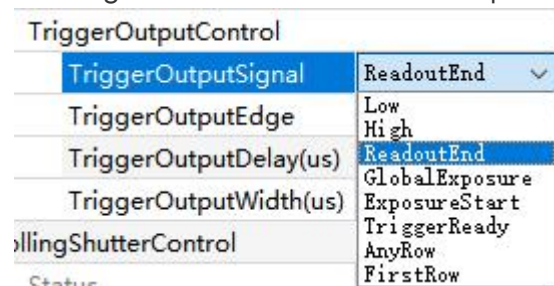

Figure 5-16
- 1) **TriggerOutputSignal**: Selects the trigger output signal. As shown in Figure 5-16, it supports 8 signals: High, Low, ReadoutEnd, GlobalExposure, ExposureStart, TriggerReady, AnyRow, and FirstRow.